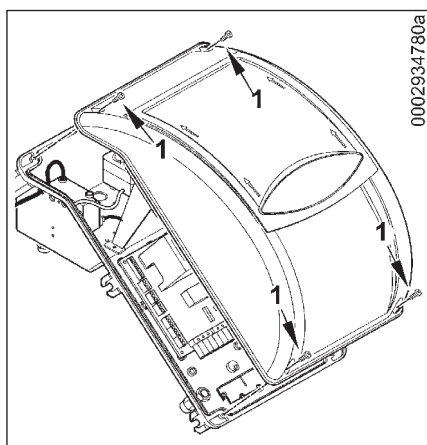

Fig. 1
- 1) Remove the lid by unscrewing the 4 screws (1) in figure 1, without removing the transparent door. In this way the burner's electrical panel can be accessed.